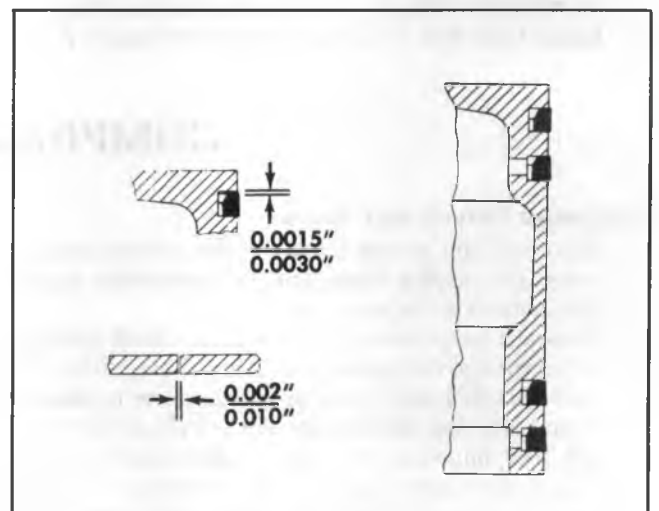

Fig. 12G--Piston Ring Arrangement and clearances 7 1/4 cu. ft. Compressor
1. Clearance between rings and sides of ring grooves in 7-1/4 cubic-foot compressor should be from 0.0015" to 0.0030" as shown in figure 12G. Ring gap should be from 0.002" to 0.010".